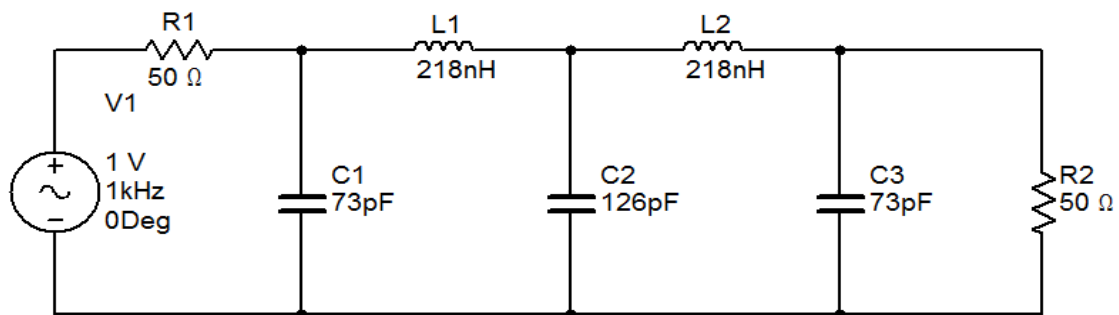

Fig: 13
Finally we calculate the actual values of components using (2) and get the fig. 13.
1. Connect the circuit as shown in fig. 13.
3. Find the BW of the circuit in fig. 13.